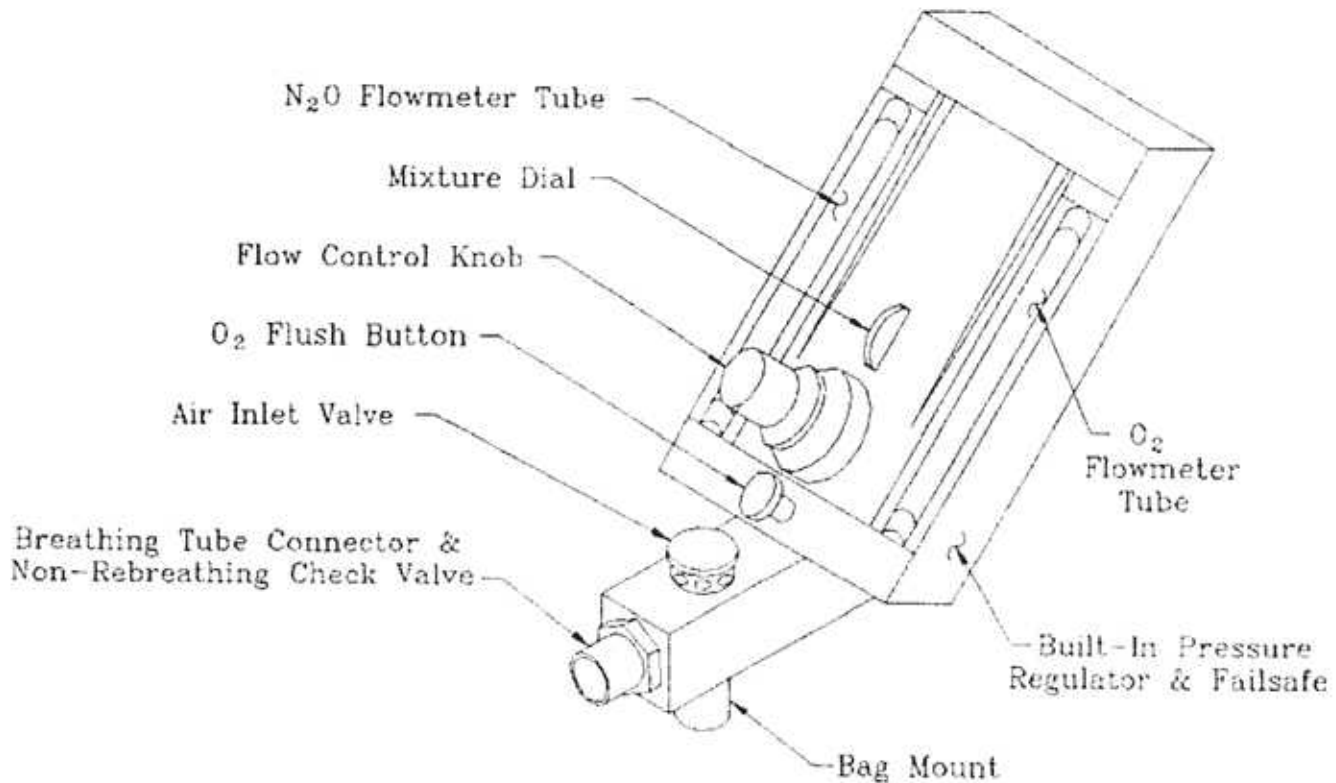

Figure 30
- A. Rotate flow control valve fully counter-clockwise (See fig 30). Rotate mixture dial to 100% position.
The failure of any one of the following tests will require the analgesia unit to be returned for service. These tests must be conducted periodically to insure that your analgesia unit is performing optimally (see fig 30).